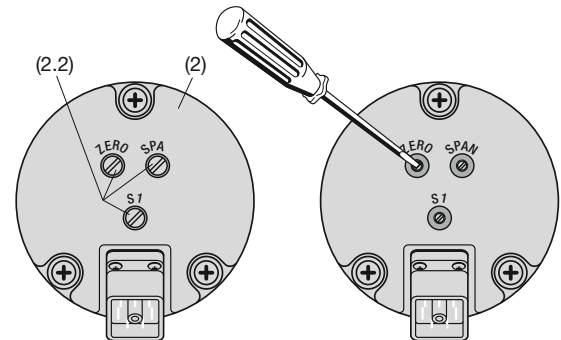
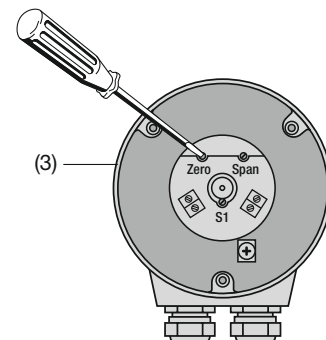

Fig. 9. Rear (2) of the transmitter with the adjustments “ZERO”, “SPAN” and “S1”.
Fig. 10. Rear (3) of the transmitter with the adjustments “ZERO”, “SPAN” and “S1”.
- ... with **plug-in connector** remove the ZERO/SPAN sealing screws (2.2) (Fig. 9, left).
Then adjust the “ZERO” potentiometer (Fig. 9, right or Fig. 10) using a watchmaker’s screwdriver (2.3 mm diam.) so that the desired output current flows.
A switch is provided on angular transmitters with a measuring range  $\nless than 150$   $\nless than 150$  for reversing the direction of rotation. It is marked S1 (Fig. 9 and Fig. 10).
... with **plug-in connector** remove the S1 sealing screw (2.2) (Fig. 9, left).